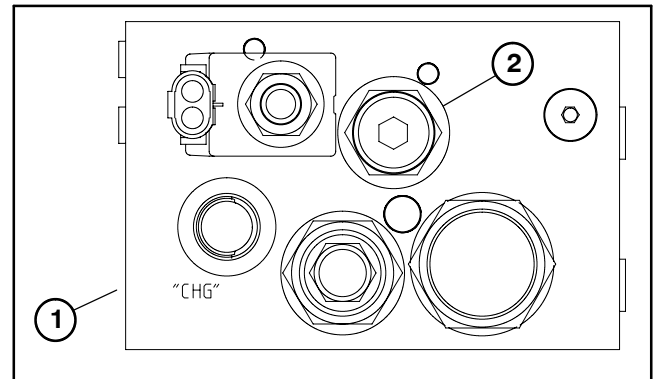

Figure 34
6. Relief valve (RV5) is located on the lower, front side of the 2WD/4WD control manifold (Fig. 34). Adjustment of the relief valve can be performed as follows: